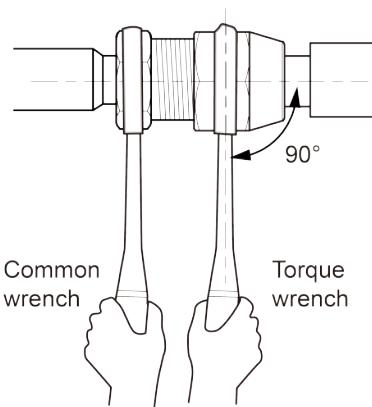

Fig.4.12
- (3) Use torque wrench to twist on the flared nut tightly until the wrench gives out a click sound (Hold the handle of wrench and make it at right angle to the pipe, as in Fig.4.12).
- (4) Use sponge to wrap the un-insulated connection pipe and joint. Then tie the sponge tightly with plastic tape.
- (5) Connection pipe should be supported by a bearer rather than the unit.
- (6) The bending angle of piping should not be too small; otherwise the piping might have cracks. Please use a pipe bender to bend the pipe.
- (7) When connecting IDU with connection pipe, do not pull the big and small joints of IDU with force in case the capillary tube or other tubes have cracks and cause leakage.